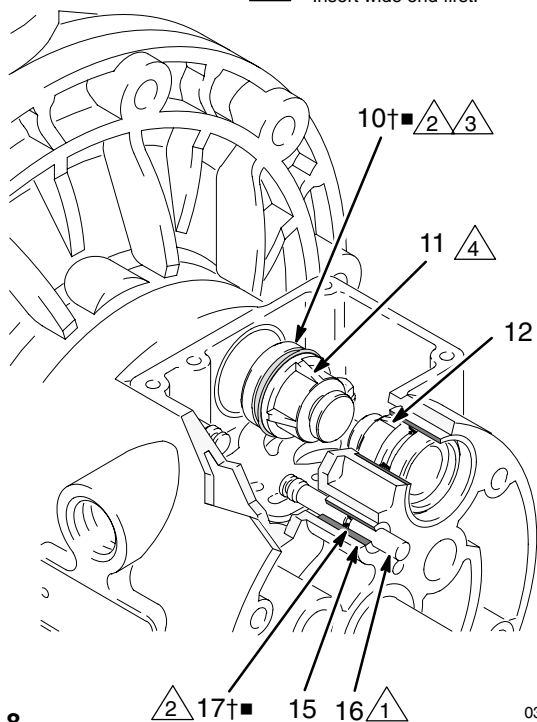

Fig. 8
4. Pull the two actuator pistons (11) out of the bearings (12). Remove the u-cup packings (10†■) from the pistons. Pull the pilot pins (16) out of the bearings (15). Remove the o-rings (17†■) from the pilot pins. See Fig. 8.
6. Inspect the bearings (12, 15) in place. See Fig. 8. The bearings are tapered and, if damaged, must be removed from the outside. This requires disassembly of the fluid section. See page 20.
4. Install an o-ring (17†) on each pilot pin (16). Grease the pins and o-rings. Insert the pins into the bearings (15), **narrow** end first. See Fig. 8.
5. Install a u-cup packing (10†) on each actuator piston (11), so the lips of the packings face the **narrow** end of the pistons. See Fig. 8.
6. Lubricate the u-cup packings (10†) and actuator pistons (11). Insert the actuator pistons in the bearings (12), **wide** end first. Leave the narrow end of the pistons exposed. See Fig. 8.